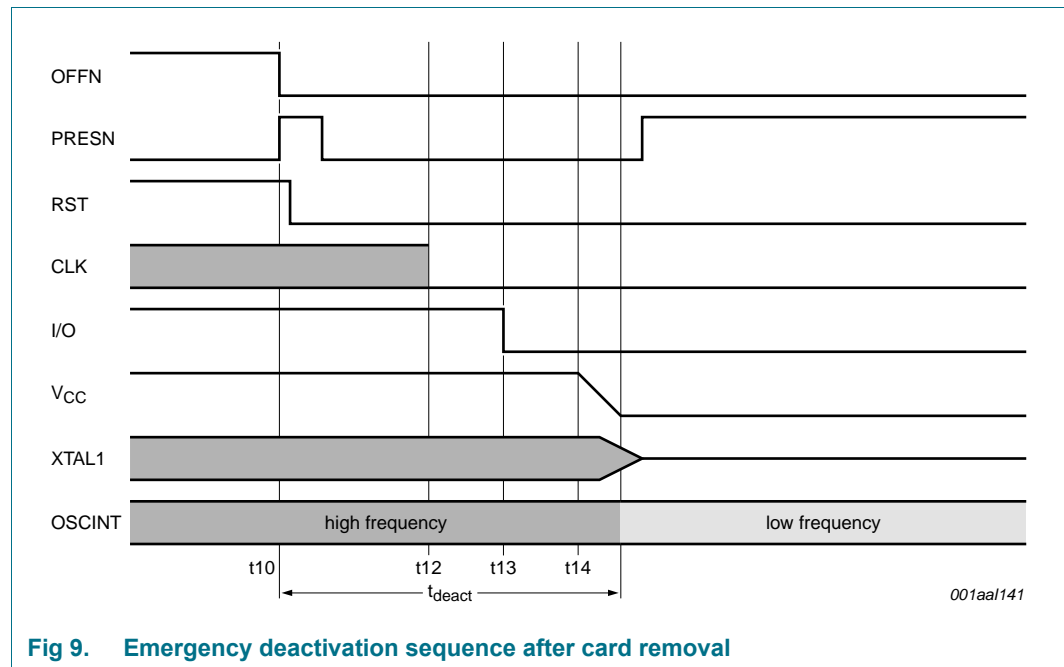

Fig 9. Emergency deactivation sequence after card removal
- In card sessions, pin CMDVCCN is LOW: when pin OFFN goes LOW, the fault detection circuit triggers the automatic emergency deactivation sequence (see Figure 9). When the microcontroller resets pin CMDVCCN to HIGH, after the deactivation sequence, pin OFFN is rechecked. If the card is still present, pin OFFN returns to HIGH. This check identifies the fault as either a hardware problem or a card removal incident.